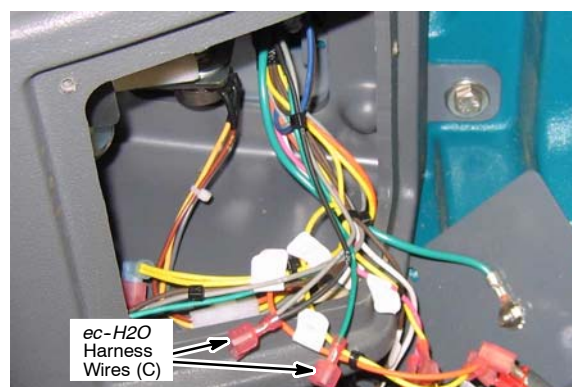

Fig. 9
7. Remove the lower control panel from the control console and pull the routed wires (C) out the opening (Figure 9).